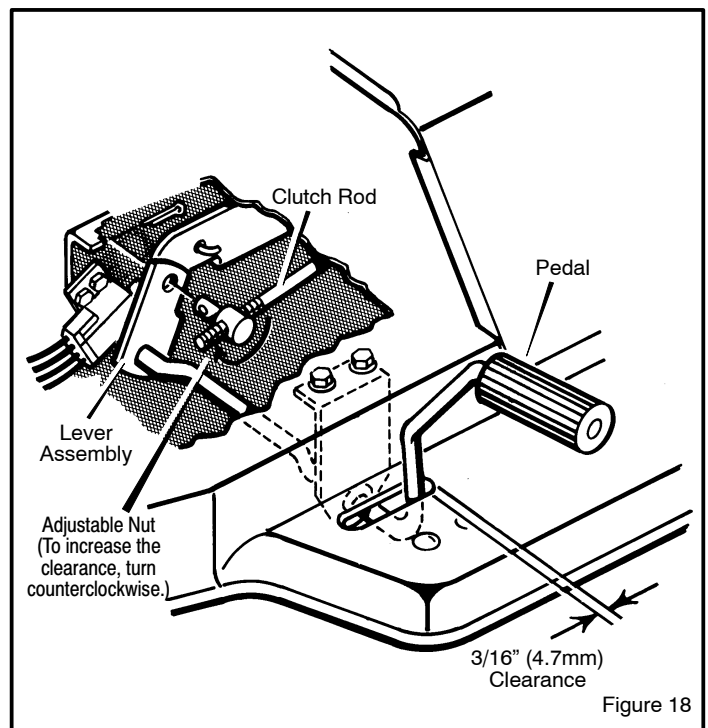

Figure 18
If the motion drive belt is loose, the clutch will slip when; (1) going up a hill, (2) pulling a heavy load, or (3) the unit will not move forward. Check the clearance at the rear of the **pedal** (Figure 18). If the motion drive belt is loose, the clearance will be less than **3/16 inch** and the clutch will slip. Adjust the clutch as follows.
2. Disconnect the **adjustable nut** from the **lever assembly** (Figure 18).